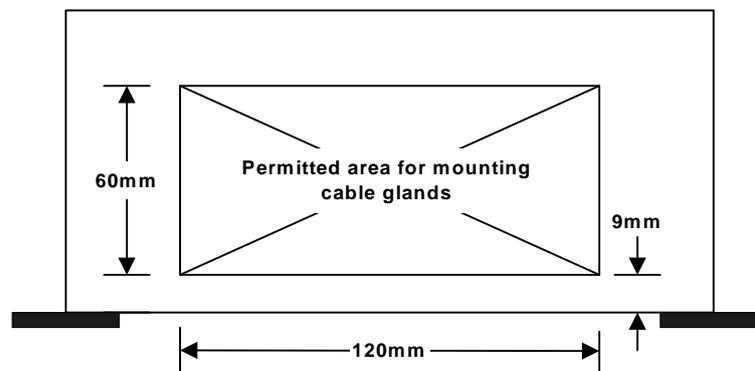

Figure 3.1: Cable gland mounting area on underside of 2462 case
| FIGURE 3.1: | CABLE GLAND MOUNTING AREA ON UNDERSIDE OF 2462 CASE | 3-4 |
To avoid the glands or cables fouling the internal connectors, the area for mounting the glands has been restricted to that shown in Figure 3.1. The only constraint within this area is that the distance between the peripheries of adjacent holes must not be less than 9mm. Should only one channel be required for use then the holes for this should be located towards the rear of the unit, thus leaving the maximum amount of room between cables and the PCB.
- 3 Arrange for holes of a suitable diameter and location to be cut in the underside of the unit, within the permitted area shown in Figure 3.1.